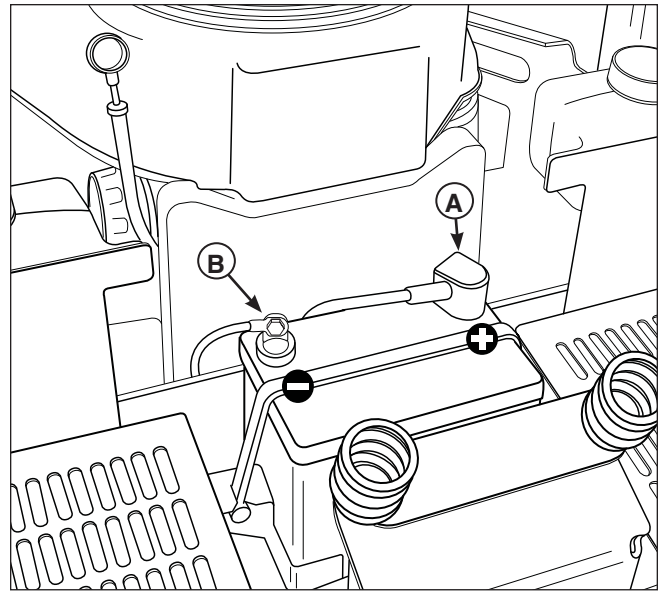

Figure 52. Battery Compartment
1. Disconnect the cables from the battery, negative (black) cable first (B, Figure 52).
3. Reinstall the battery and reattach the battery cables, positive (red) cable first (A).